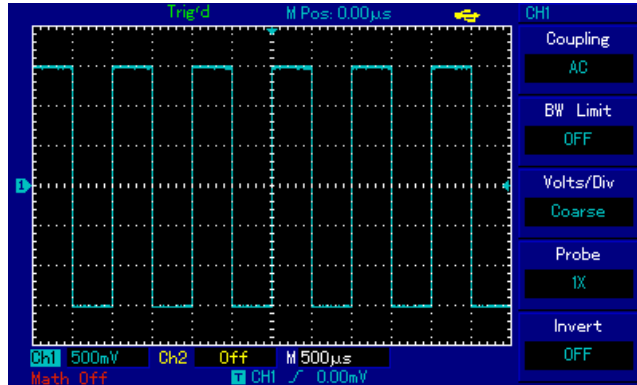

Figure 1-7 Probe Compensation Signal
- 3) Connect the probe pin and ground clamp to the corresponding terminal of the probe compensation signal. Press **AUTO** key. Within several seconds, square wave display (1kHz, about 3V, peak-to-peak value) is as shown in Figure 1-7. Check CH2 in the same way; press **OFF** function key to close CH1; press **CH2** function key to turn on CH2; repeat step 2 and 3.